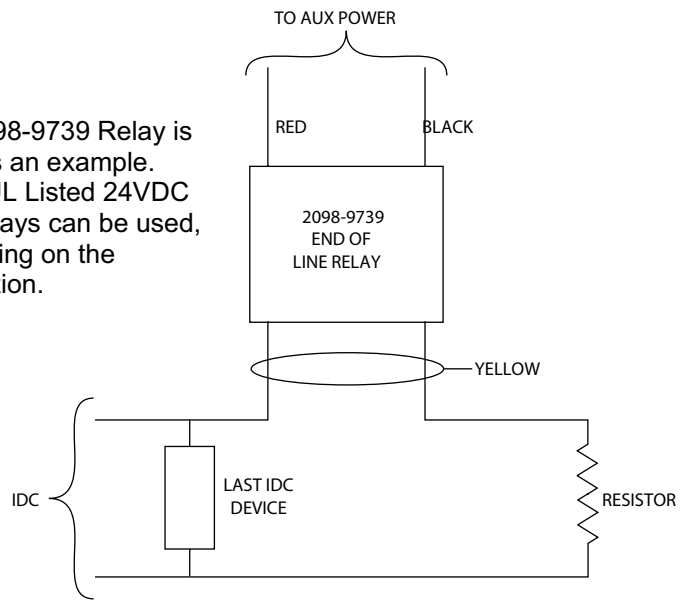

Figure 5-6. The EOL relay
- Auxiliary power only: Supervision must be provided if the auxiliary power circuit is to be wired as a power-limited circuit. In order to connect a circuit using power-limited wiring, the devices being powered must all be addressable, or a UL listed EOL relay must be used to supervise the circuit. Refer to Figure 5-6 for wiring directions for the EOL relay.